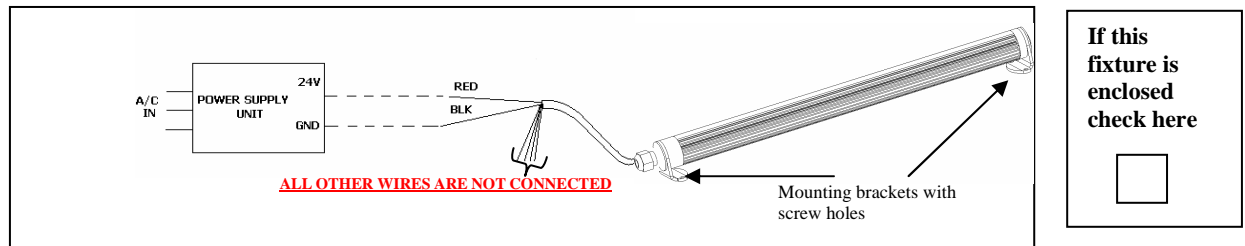

Figure 1: Single Color Non-Dim LM Fixture
- For connecting a single color non-dimming fixture, refer to Figure 1 and Notes 1 ONLY